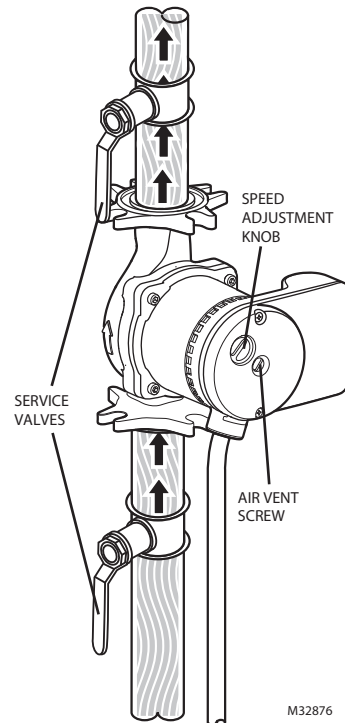

Fig. 9. Bleed the circulator by loosening the air vent screw.
- Turn the speed adjustment knob clockwise to increase the speed (see Fig. 9).
Rotor/shaft stuck	<ul style="list-style-type: none"> Isolate the pump from the power supply. Remove the vent screw (see Fig. 9). Turn the shaft clockwise using a small screwdriver. Screw in the vent screw. Switch on the pump.